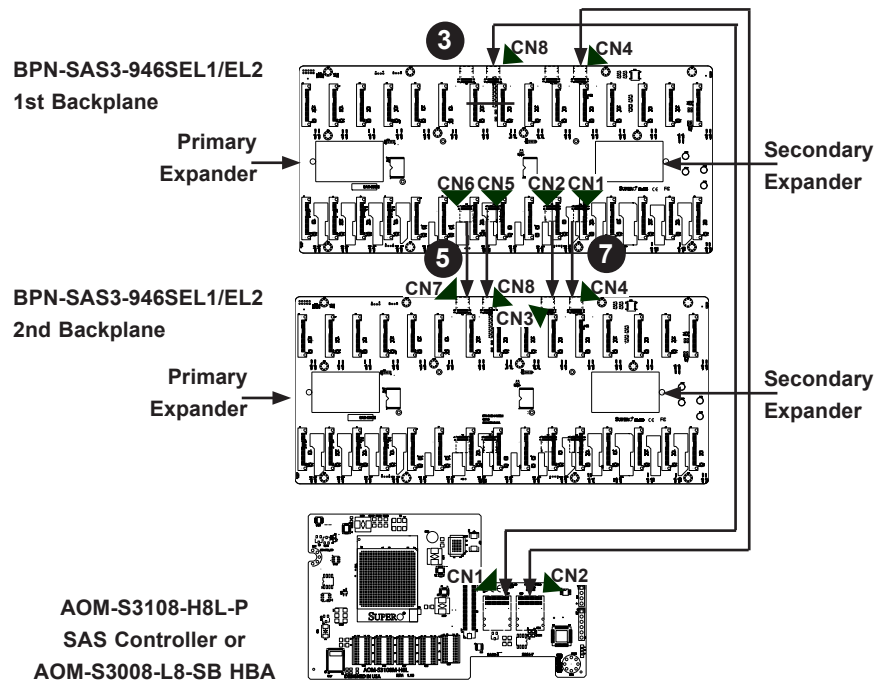

Figure C-5. Backplane Cascading Configuration (EL2 Version)
3. Plug the cables into connector CN8 and CN4, then route the cables to connectors CN1 and CN2 on the underside of the AOM-S3108-H8L-P SAS controller as illustrated in Figure C-5.
5. Connect the cables to CN5 and CN6, then route them to CN7 and CN8 on the underside of the 2nd backplane as illustrated in Figure C-5.
7. Connect the cables to CN1 and CN2, then route them to CN3 and CN4 on the underside of the 2nd backplane as illustrated in Figure C-5.